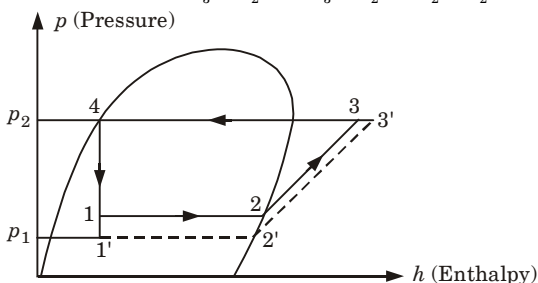

Fig. 5.12.1. Effect of decrease in suction pressure.
1. The effect of decrease in suction pressure in $p-h$ diagram is shown in Fig. 5.12.1.